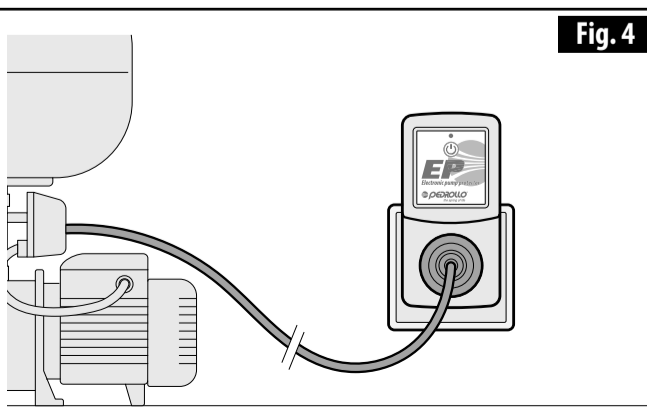

Fig. 4
- Insert the EP device in the power socket (Fig.4).